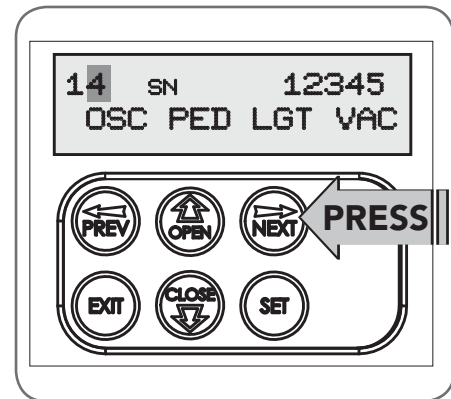

Fig G.4
- Press NEXT to reveal the Serial Number (**Fig. G.4**).